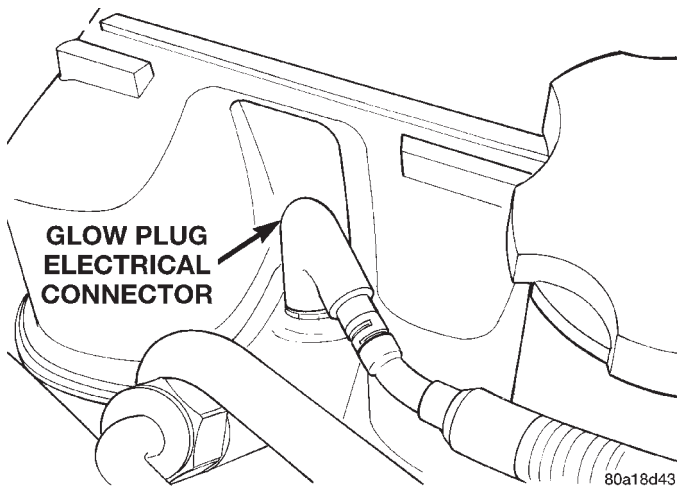

Fig. 23 Glow Plug Electrical Connector
- (1) Disconnect the negative battery cable at the battery.
- (2) Clean the area around the glow plug with compressed air before removal.
- (3) Disconnect electrical connector (Fig. 23) at glow plug.